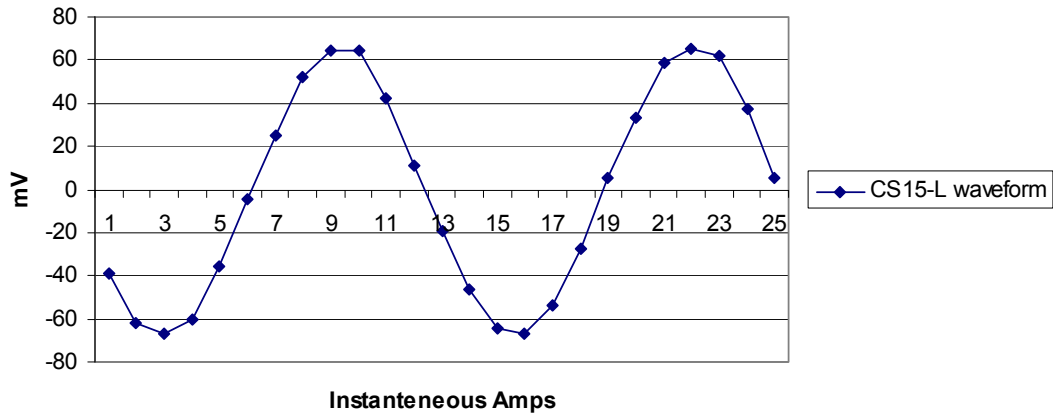

FIGURE 3. Graph of a CS15 waveform
The recommended programming method for CR200(X)-series dataloggers (where the scan interval is limited to once per second) is to place the VoltSE instruction within a loop. The first CR200(X) example program has a loop that samples 25 times, and the second CR200(X) example program has a loop that samples 30 times. A 25-sample loop produces almost two cycles of a 60 Hz wave form, and a 30-sample loop produces almost two cycles of a 50 Hz wave form (see Figure 3). The average energy under the curve is calculated using the RMSSpa instruction. A multiplier of 0.2 is applied to the RMS value; see Section A.4 for more information.
**25 Samples of Amperage on CR200(X) Datalogger (60 Hz)